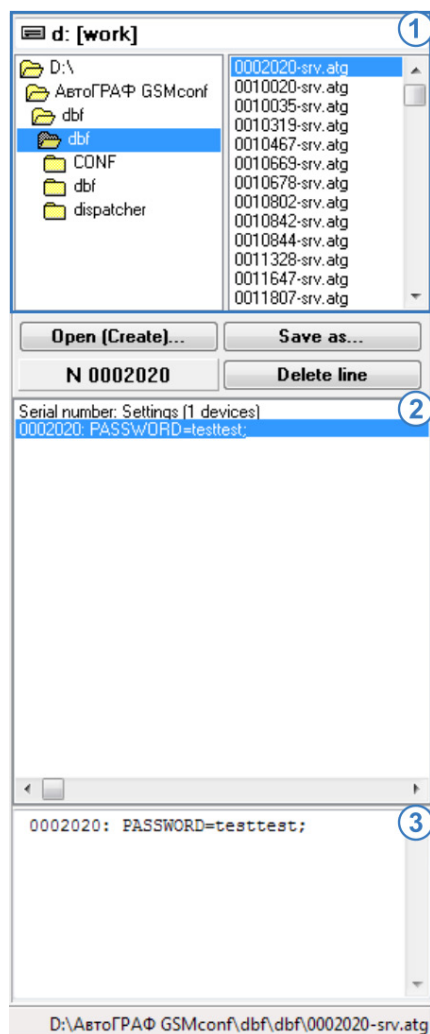

Fig.8. ATG browser.
In the upper part of the browser (see Fig.8, item 1), select the required file with settings. Double-click opens the file. Alternatively, use the “Open (create)” button to open the .atg file.
The contents of the opened .atg file is displayed in section 2 (see Fig.8). File may contain the settings of several devices. Settings of each device appear in a different line following the serial number of a relevant AutoGRAPH device.
Select the line to review the settings of required device. Its settings will appear in section 3 (see Fig.8).